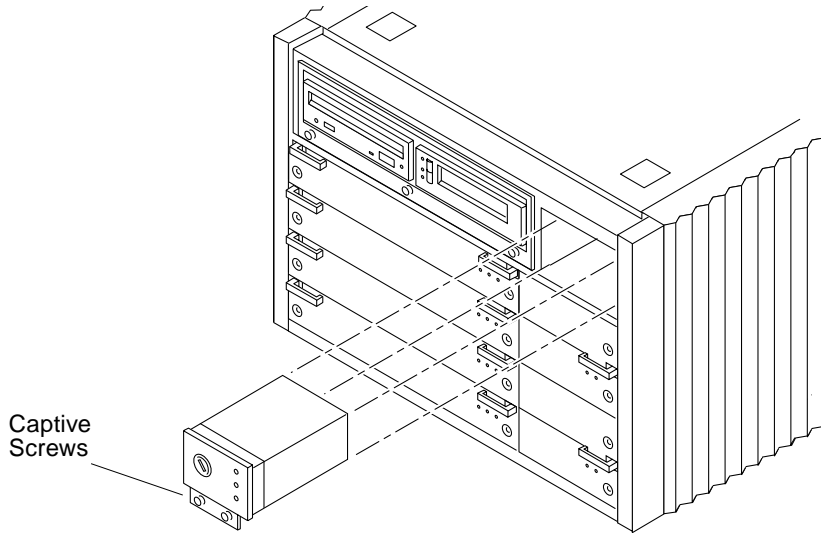

FIGURE 4 Keyswitch Assembly
4. Loosen the two captive screws securing the keyswitch assembly to the system and gently pull the keyswitch from the enclosure (FIGURE 4).
3. **Replace the keyswitch assembly in the front of the system (FIGURE 4).**